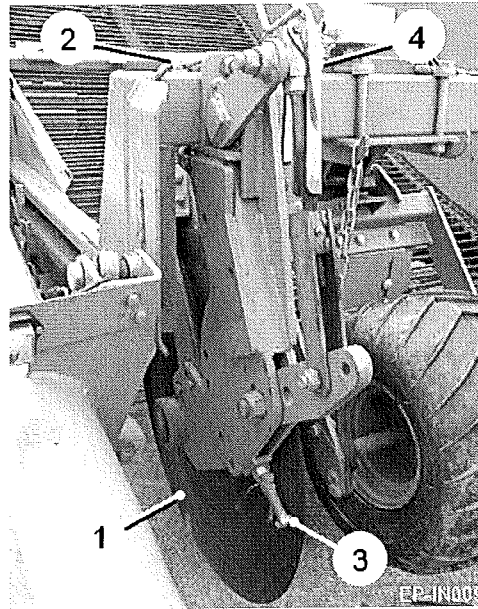

Fig 7
For two row work the harvester is fitted with four disc coulters (item 1, fig 7), and for full width bed work, with two. The disc coulters run on either side of the ridge, cutting and parting the haulm and trash in front of the shares whilst at the same time containing the ridge and feeding it over the shares onto the digger web. The centre discs (if fitted) may need to be set differently to the outer pair which operate where the soil has been compressed by the tractor wheels. The disc coulters are adjustable for depth of work and for different row widths.
To adjust the disc width setting, loosen the clamp bolts (item 2, figure 7) and slide the disc unit to the required position. When correctly set, the discs should be approximately 20mm clear of the edge of the share blades.
Depth adjustment is controlled by the set screw (item 3, figure 7) mounted under each disc arm. Turning the screw clockwise reduces depth and turning anti-clockwise increases depth. Each disc unit is fitted with a torsion block which applies downward pressure to the disc to ensure a clean cut, but allows some movement if the disc should contact an obstacle. Tension adjustment is carried out by turning the handle (item 4, figure 7) clockwise to increase tension and anti-clockwise to decrease tension. The tension should not be set such that the discs act as wheels partially supporting the digger assembly.